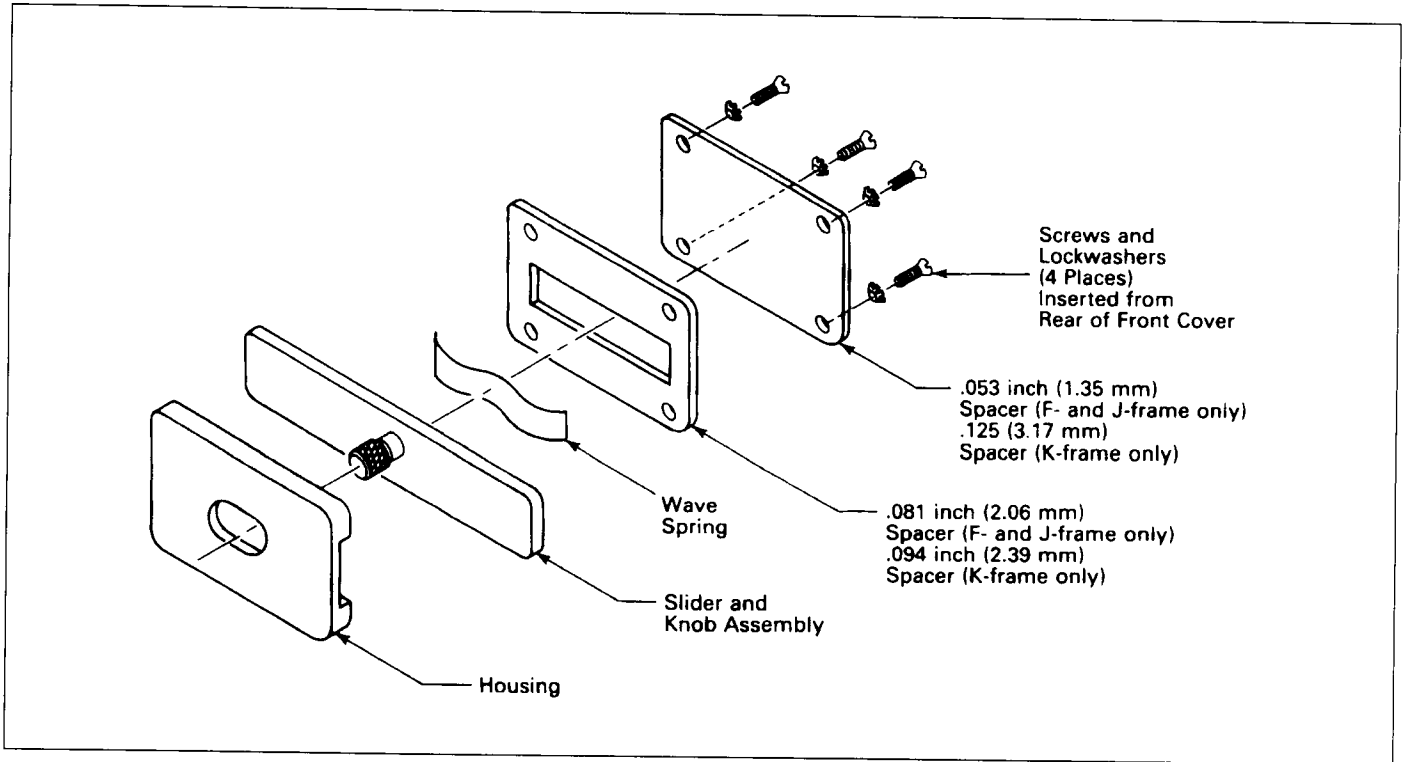

Fig. 2-7. Assembly Sequence of Sliding Bar Interlock Components
- 2-5. Mount the components of the interlock in the following manner (Fig. 2-7):